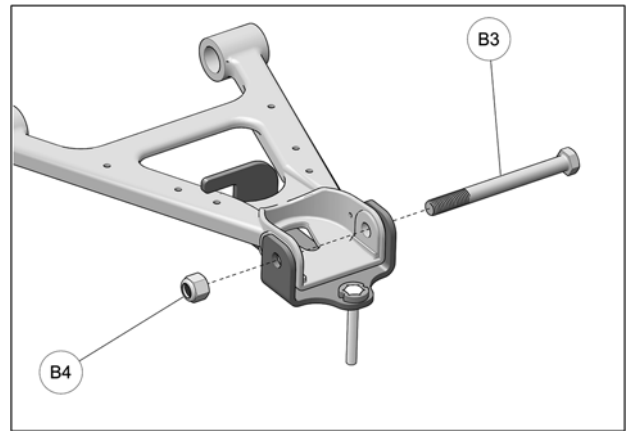

Fig. 8
7. Insert the new 5/8-11 bolt (B3) in the anchor bracket, through the lower suspension arm and the wheel hub. Secure assembly using the new 5/8-11 nut (B4) provided. Tighten bolt to 108 N•m [80 lb•ft].. See Fig. 8